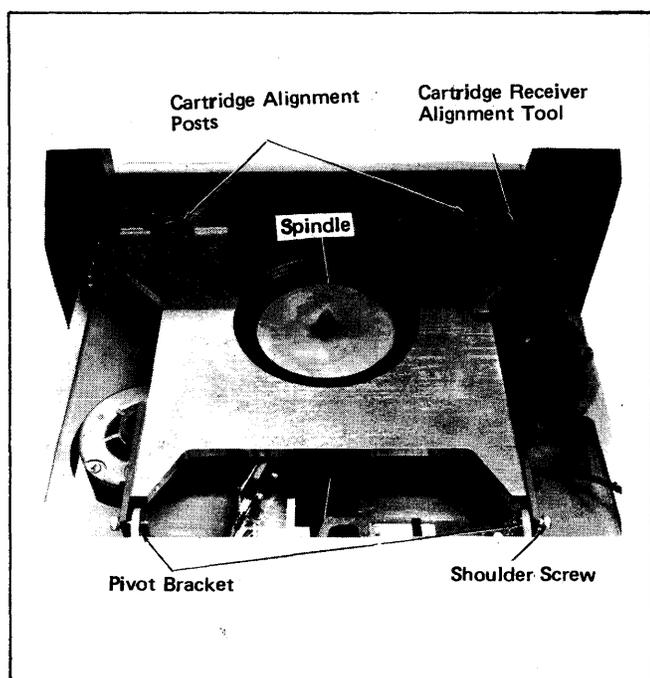

Figure 5-18. Receiver Alignment Tool
- i. Allow receiver alignment tool to rest on cartridge alignment posts with small portion of the post protruding through the alignment tools' holes. See Figure 5-18.